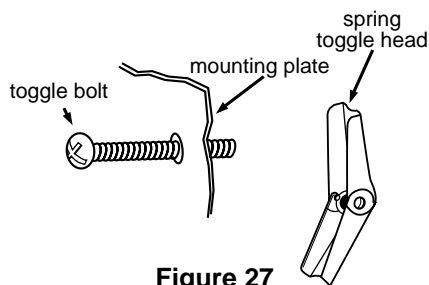

Figure 27
2. Prepare the toggle bolts by putting the bolts through the corner holes and attaching a spring toggle head to the end of each toggle bolt as shown in Figure 27.